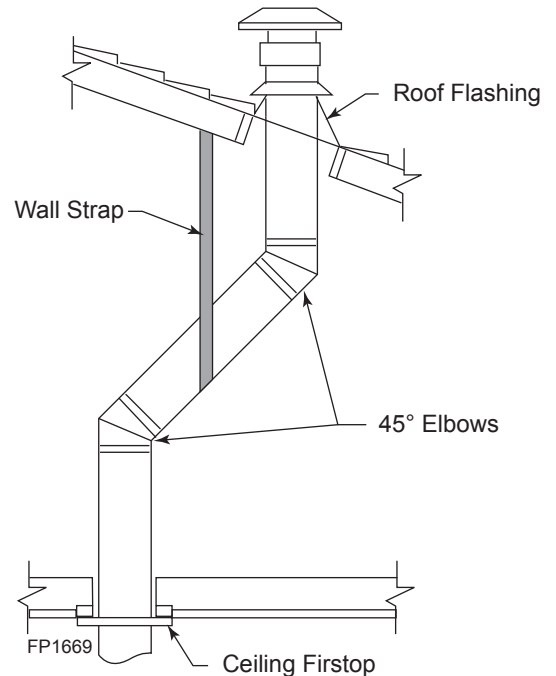

Figure 20 - Offset with Wall Strap and 45° Elbows
1. Determine the route your vertical venting will take. If ceiling joist, roof rafters or other framing will obstruct the venting system, consider an offset. Refer to Figure 20 to avoid cutting load bearing members.